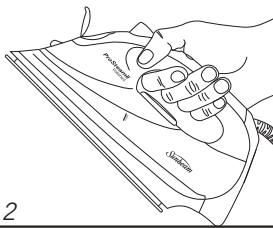

Figure 2
2. Place the iron on its heel and hold it at a 45 degree angle. (Refer to figure 2 below). Open the water inlet cover.